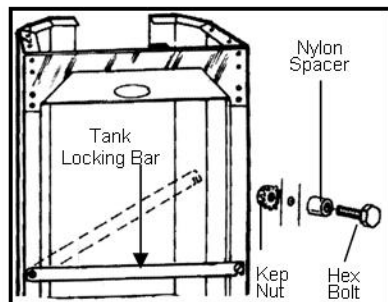

Fig. 1
A. In box #2, find and attach the LP Tank Locking Bar across the back of the column. This spreads and holds the correct spacing at the back of the column regardless of the type of gas that will be used. Use the (2) 3/4" Hex Bolts, Nylon Lock Bar Spacers and Kep Nuts to fasten the lock bar in place. (Fig. 1)
A. In box #2, find and attach the LP Tank Locking Bar across the back of the column. This spreads and holds the correct spacing at the back of the column regardless of the type of gas that will be used. (Fig. 1 Page 8)